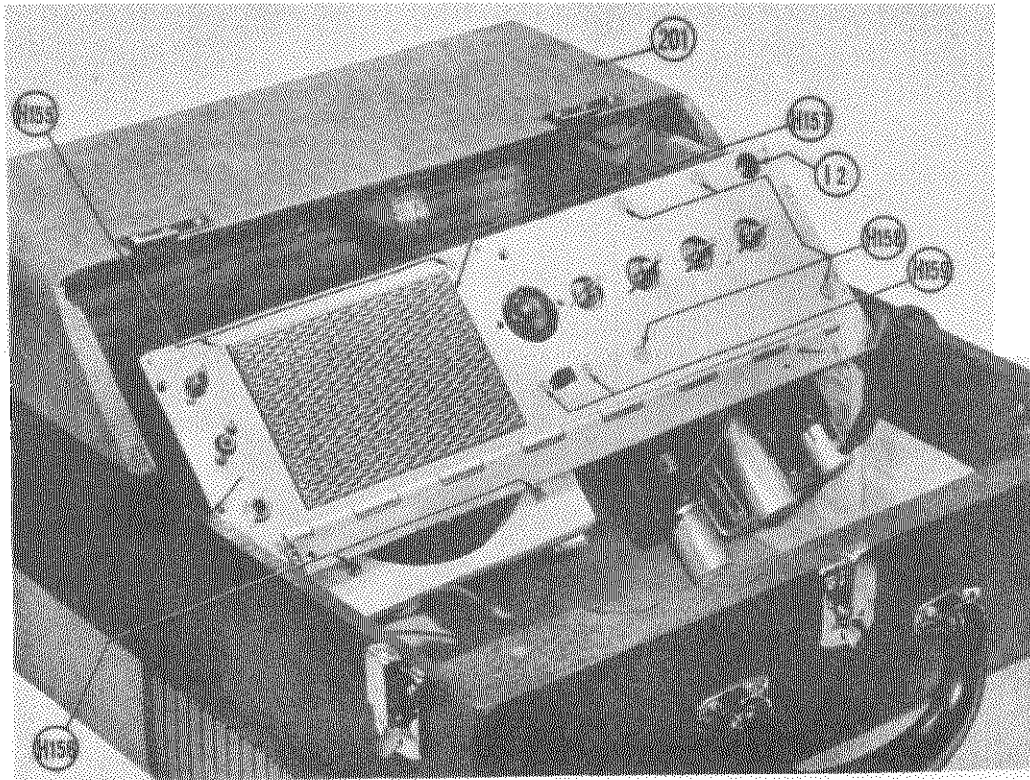

Fig. 49—Disassembly Step No. 11
11. Carefully slide the amplifier unit toward the front of the case and lift it out when the amplifier base board clears the top of the case. (See Fig. 49). Note: While sliding the unit forward, hold the left side of the unit to prevent tearing of the leatherette covering of the case at the point indicated by the arrow in Fig. 49.